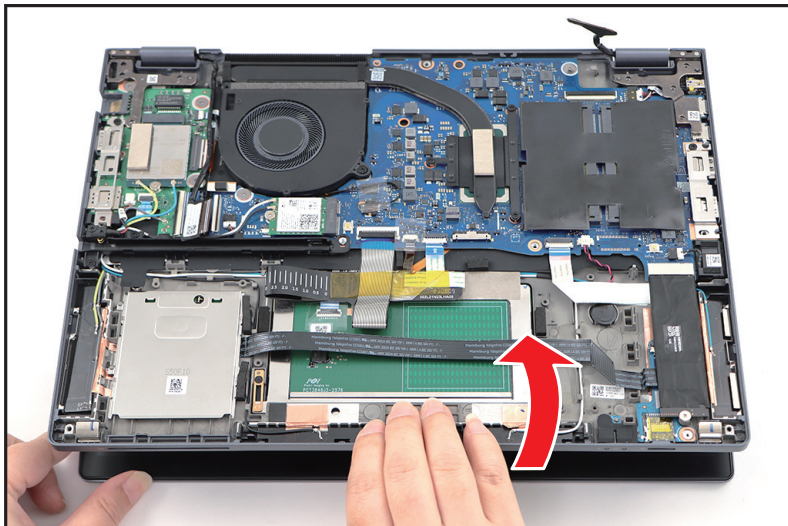

Figure 1-23. LCD Module Removal
4. Lift the top assembly until it is fully open (Figure 1-23).